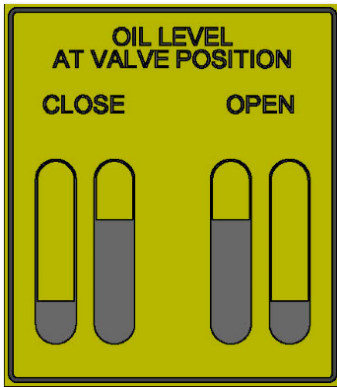

Fig 5.5 Oil Level Label
- Oil level: to indicate the oil level in the gas-oil tank in the Open and Close position (see Fig 5.5, Fig 5.6 for reference only).